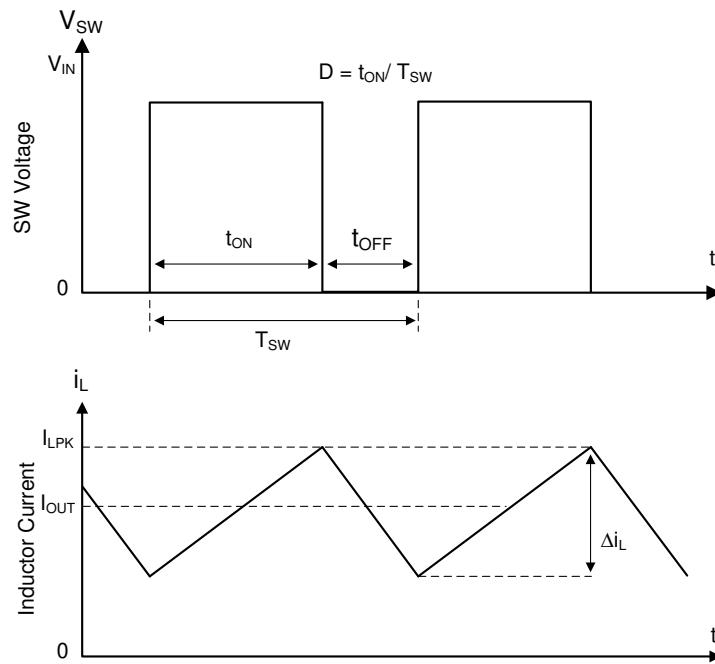

Figure 7-1. SW Node and Inductor Current Waveforms in Continuous Conduction Mode (CCM)
The following operating description of the LMR51403 refers to the Functional Block Diagram and to the waveforms in Figure 7-1. The LMR51403 is a step-down synchronous buck converter with integrated high-side (HS) and low-side (LS) switches (synchronous rectifier). The LMR51403 supplies a regulated output voltage by turning on the high-side and low-side NMOS switches with controlled duty cycle. During high-side switch ON time, the SW pin voltage swings up to approximately V_{IN} , and the inductor current, i_L , increases with a linear slope of $(V_{IN} - V_{OUT}) / L$. When the high-side switch is turned off by the control logic, the low-side switch is turned on after an anti-shoot-through dead time. Inductor current discharges through the low-side switch with a slope of $-V_{OUT} / L$. The control parameter of a buck converter is defined as Duty Cycle $D = t_{ON} / T_{SW}$, where t_{ON} is the high-side switch ON time and T_{SW} is the switching period. The converter control loop maintains a constant output voltage by adjusting the duty cycle D . In an ideal buck converter, where losses are ignored, D is proportional to the output voltage and inversely proportional to the input voltage: $D = V_{OUT} / V_{IN}$.